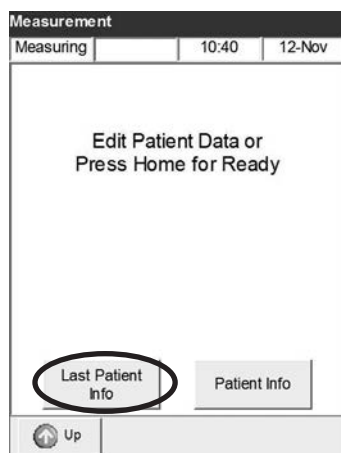

Fig. 5-7 Edit Patient Data
- Press the **<Last Patient Info>** button (Fig. 5-7) to use the last patient info as the default for the current patient info.